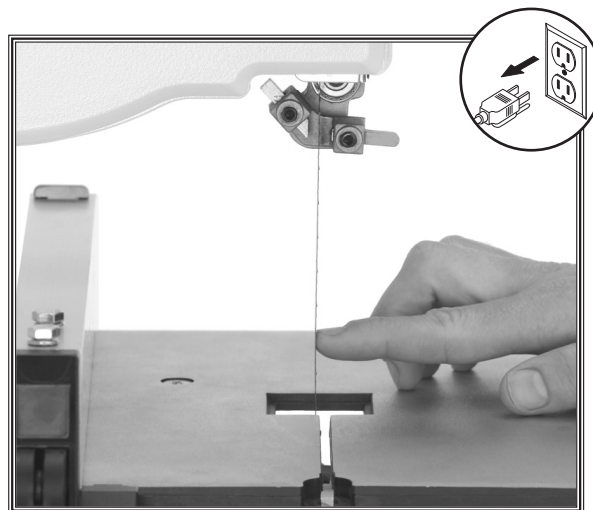

Figure 28. Blade deflection test.
5. Turn the blade tension knob and push the blade carefully with your finger until there is moderate pressure on the blade as shown in **Figure 28**.